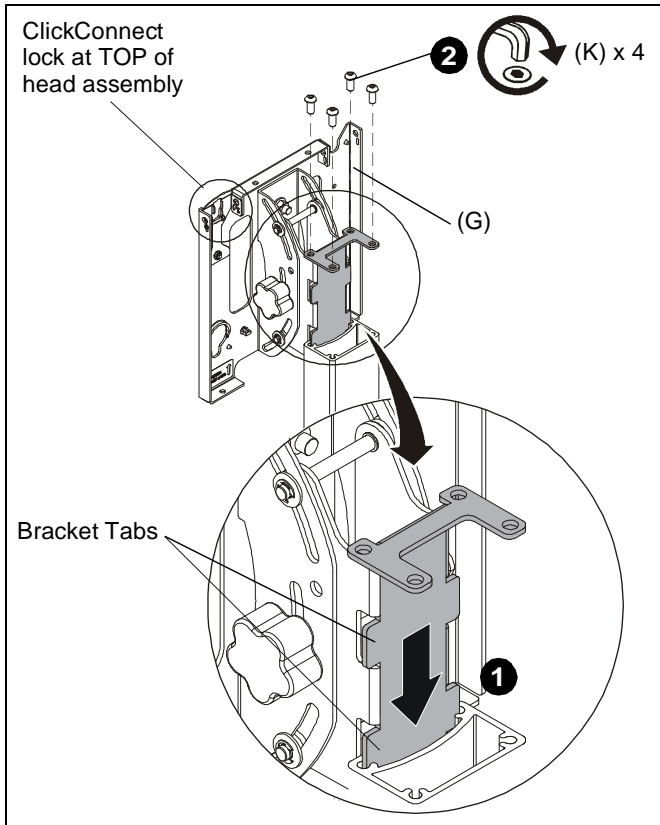

Figure 5
**IMPORTANT !** : When attaching head assembly ensure that the ClickConnect lock is at TOP of head assembly, and bracket tabs slide into the stand assembly. (See Figure 5)
1. Slide head assembly (G) into the stand assembly. (See Figure 5)
2. Attach head assembly (G) to the cart assembly using four 5/16-18 x 3/4" button head cap screws (K). (See Figure 5)